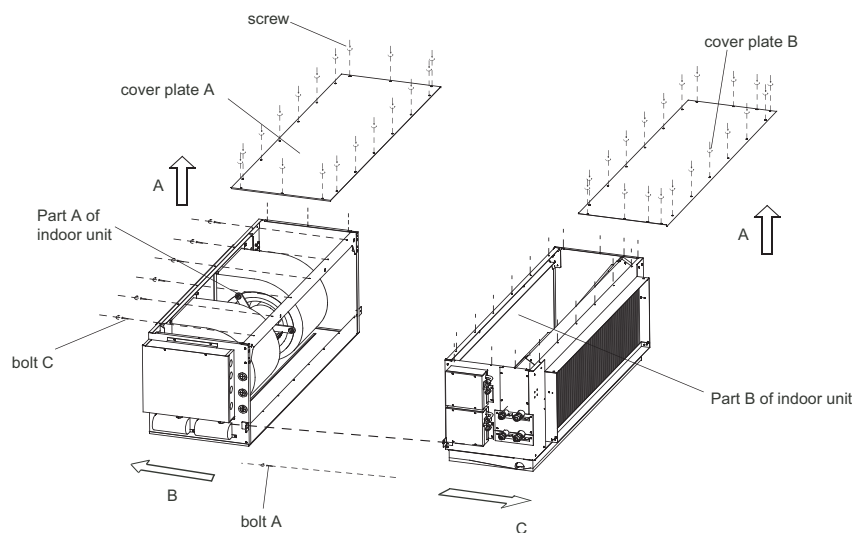

Fig.4-21
- 2 Following *Fig.4-21* twist-off the screws, along the direction of A get off the cover plate A and cover plate B.